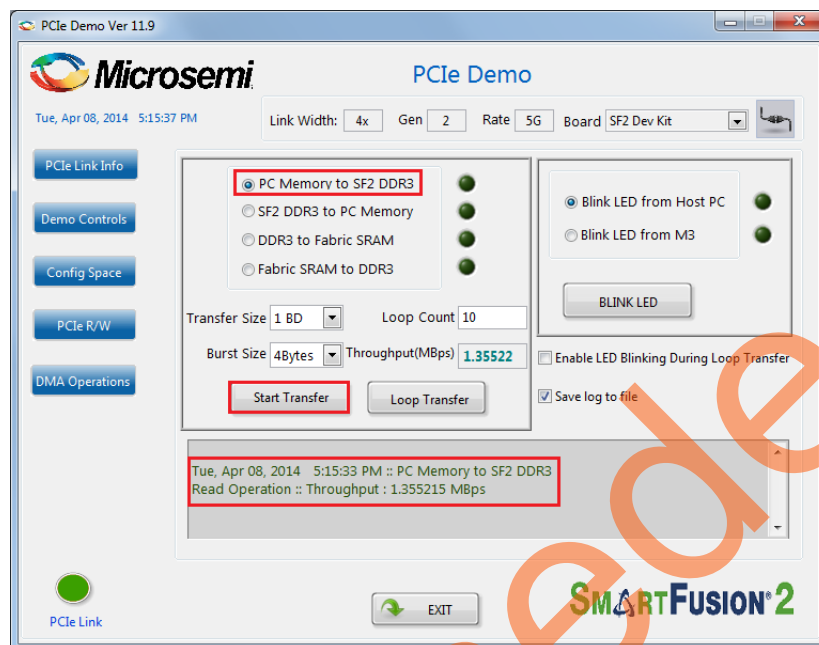

Figure 18 • PC Memory to DDR3 Transfer Throughput
7. Select the type of DMA transfer as **PC Memory to SF2 DDR3**, select any **Transfer Size** and click **Start Transfer** as shown in Figure 18. After completion of data transfer, the GUI displays the **Throughput** in MBps.